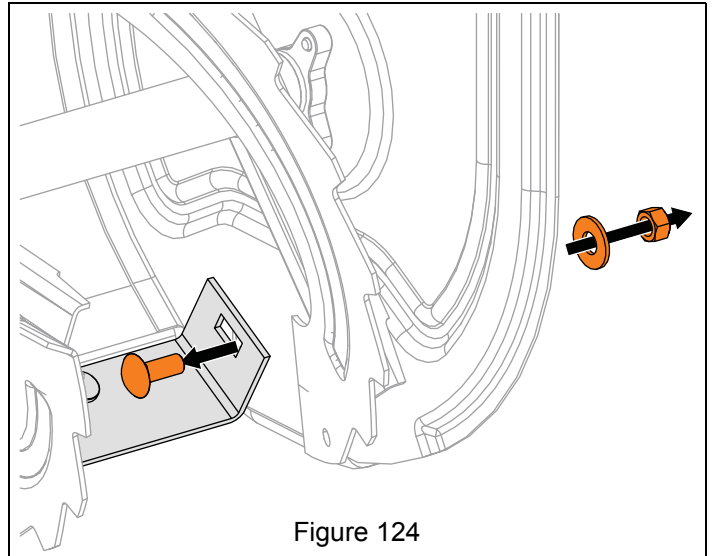

Figure 124
3. Secure chute rotation gear to chute pedestal with original hex bolt, flange bushing and flange nut. See Figure 124.